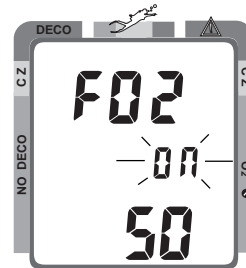

Fig. 27 - Set FO2 50% Default On/Off
- FO2 50 appears with On or Off flashing (Fig. 27)